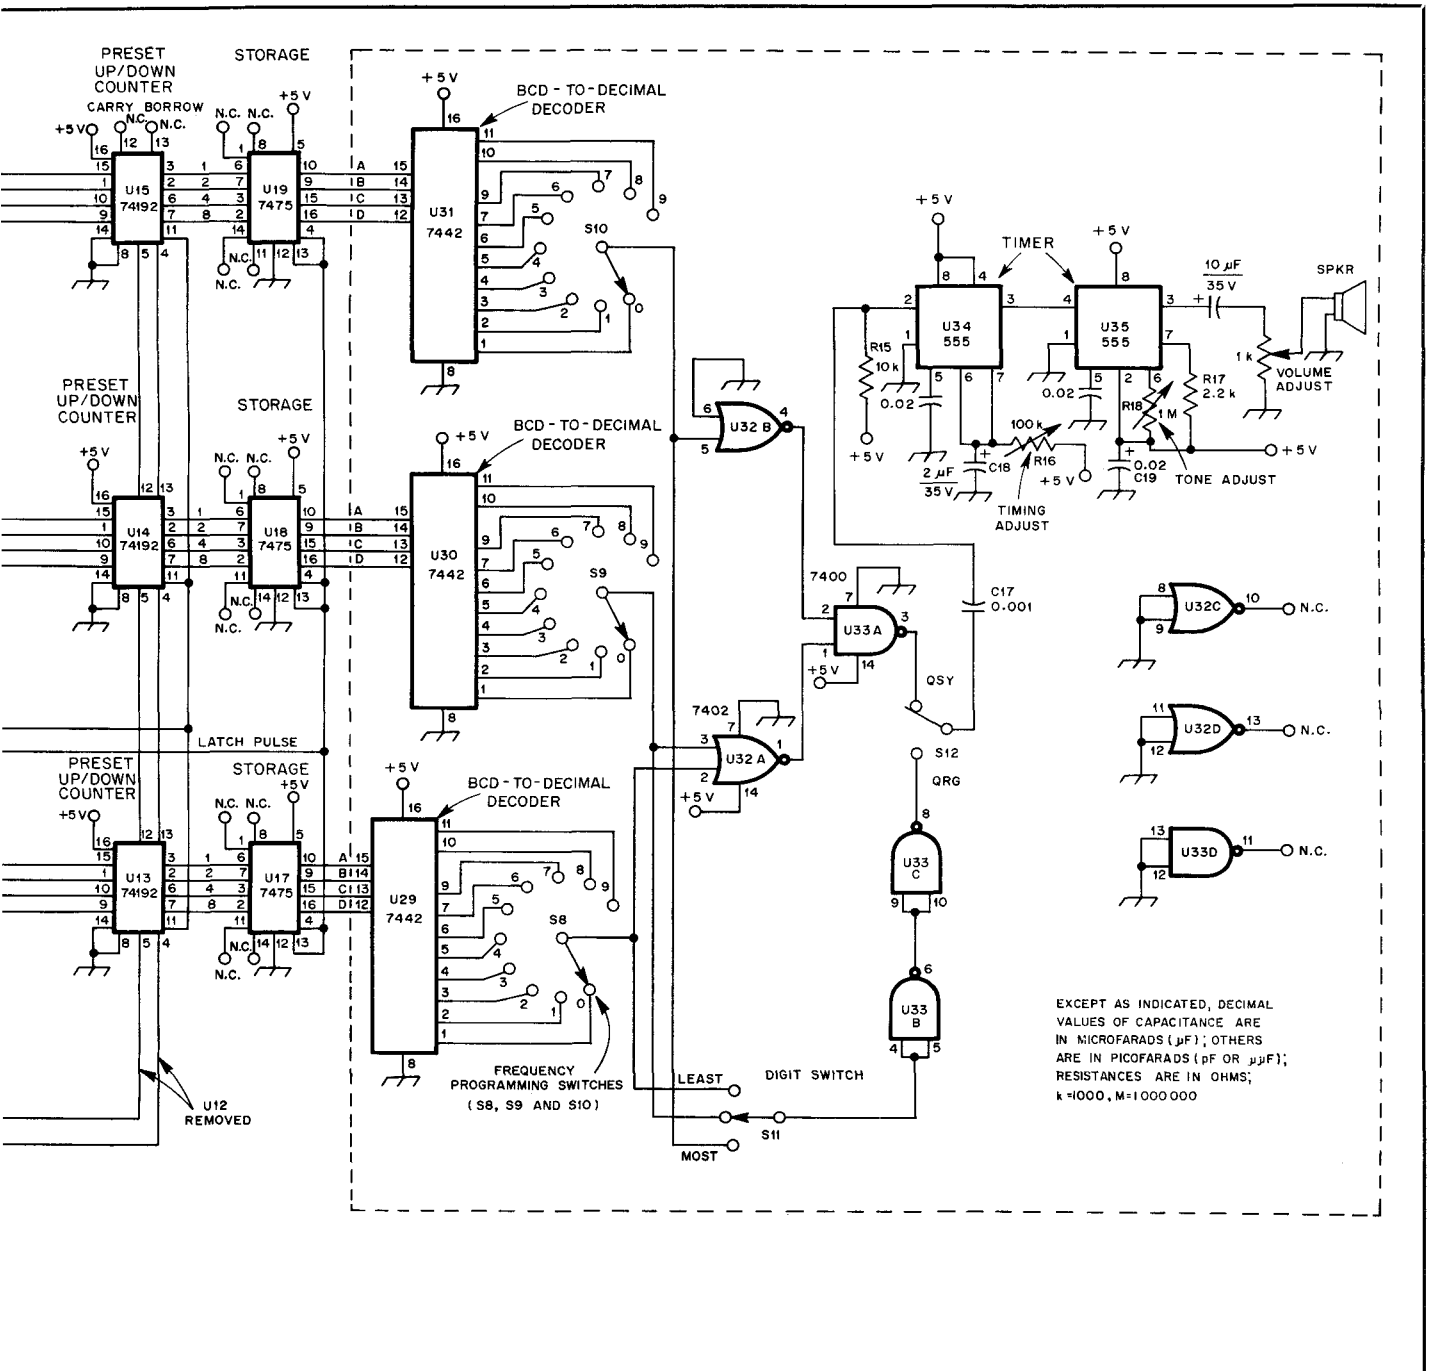

Fig. 2 — Complete schematic diagram of the frequency counter and audible frequency readout.
of miniature coaxial cable to the VFO. A complete schematic diagram of the counter and readout is given in Fig. 2.
We need a low output from the NAND gate to trigger the 555 one-shot multivibrator shown in Fig. 2. Since the output from the NAND gate is high up to the moment that you tune to the exact programmed frequency, and then falls to 0, C17 and R15 are used to differentiate this wave form to produce the necessary pulse for the one-shot. The output of the one-shot is timed by R16 and C18 for about 1/10 of a second and is fed to the control pin of the second 555, an audio-frequency oscillator that generates a tone in a miniature loud speaker. The tone of the beep is controlled by the values of R17, R18 and C19. R15 ensures that the voltage on pin 2 of the one-shot is always high except during the short interval of the trigger pulse. The trigger pulse always must be shorter than the one-shot output pulse.
□ Bob Shriner, WA0UZO, points out an error in Fig. 2 of Rand's article, "The 'Beeper': An Audible Frequency Readout for the Blind Amateur," on p. 21 of Sept. 1983 *QST*. Timer U35 will not work as shown. Pin 2 should be connected to pin 6, not to +5 V as shown. Make the connection to the top of the 1-M $\Omega$  tone-adjust control, instead of the bottom.